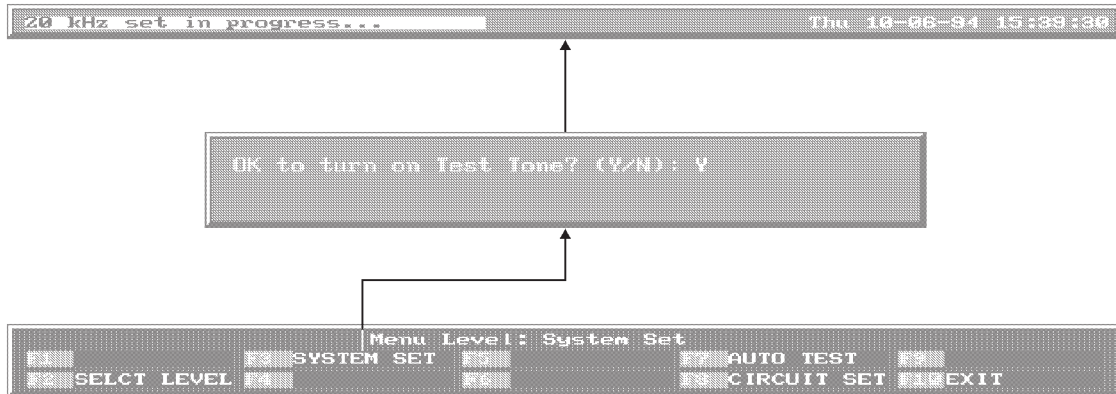

Figure 16 - System Set Menu
To perform a System Set, press the function key associated with the 'System Set' function in the 'System Set' menu. Since in a system set audible tones are introduced throughout the system, and the system becomes busy during the procedure, a confirmation window appears first asking 'OK to turn on Test Tone? (Y/N) :'. Type 'Y' to continue, or 'N' to abort the system set. As the System Set is progressing, the test frequency is indicated on the left end of the time bar (see figure 16, and figure 1, item 9) and the oscillator frequency and level are shown in the 590A oscillator status box.